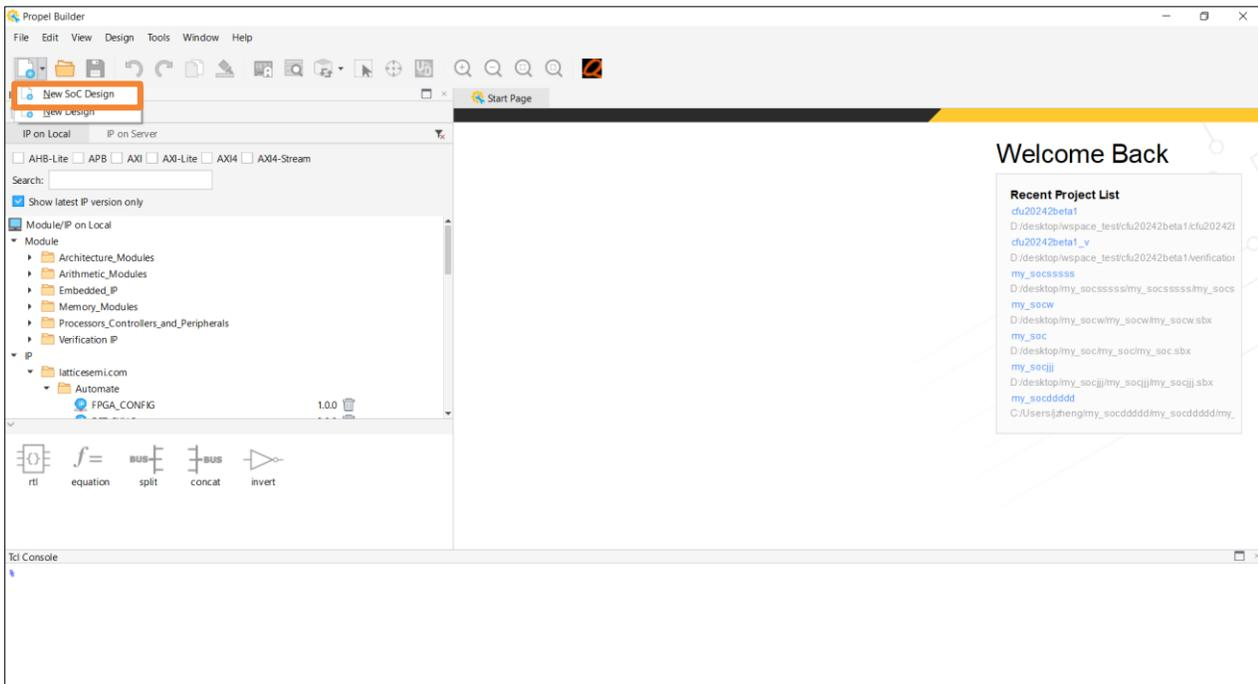
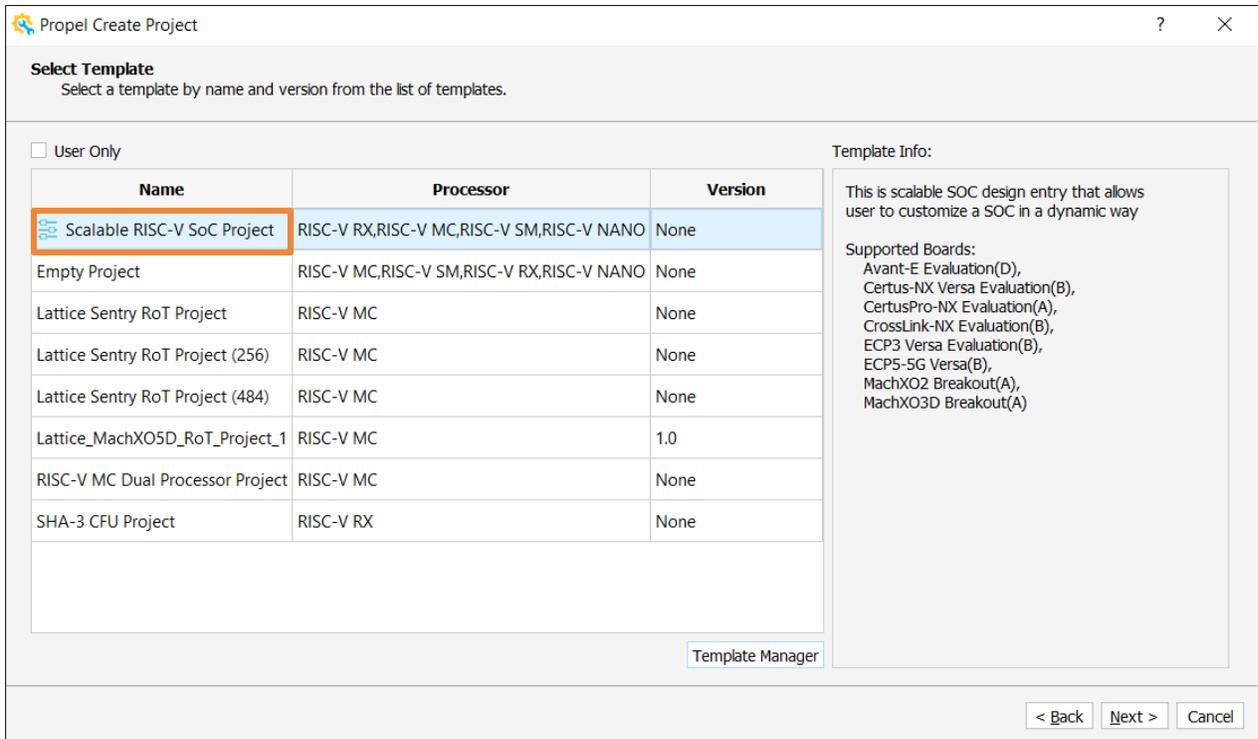

Figure 2.16. New Soc Design
Figure 2.17. Choose Scalable RISC-V SoC Project
1. In the Propel Builder GUI, choose **New SoC Design** (Figure 2.16) to open the **Propel Create Project** page. Choose **Scalable RISC-V SoC project**. Click **Next** (Figure 2.17).